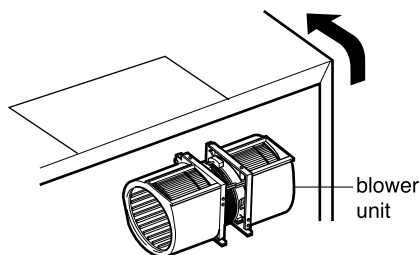

Figure 20
3. Rotate blower unit 90° so the exhaust ports face the front of the cabinet. See Figure 20.